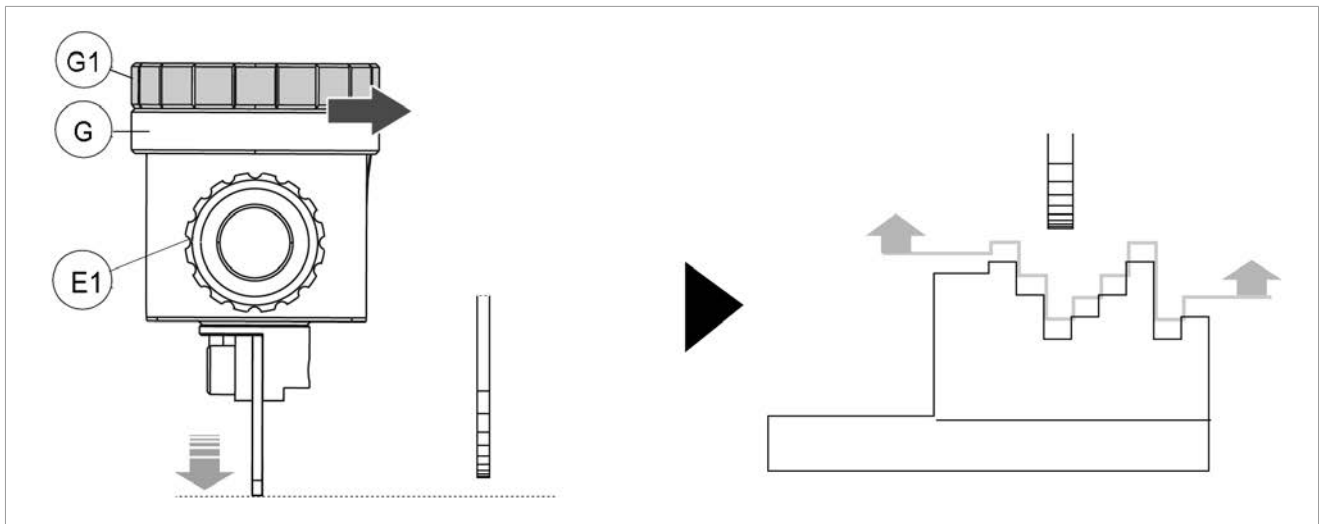

Fig. 18
- turn the ring nuts (G) and (G1) clockwise to advance the tracer point (Fig. 18).